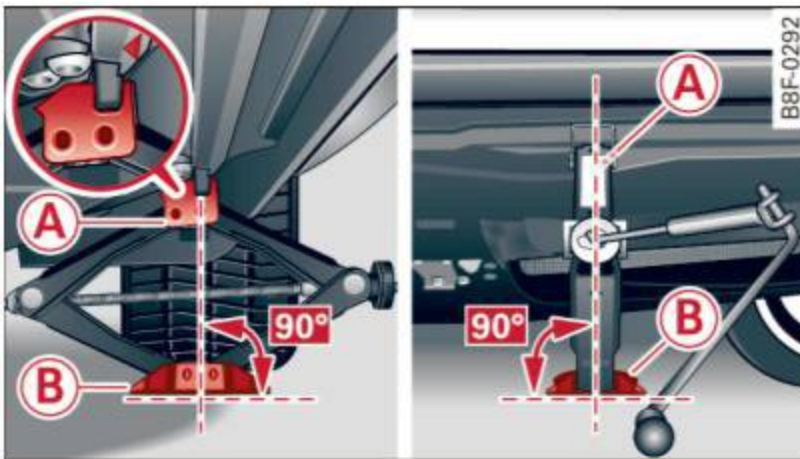

Fig. 188 Sill: positioning the vehicle jack
- ▶ Turn the **vehicle jack** located under the lifting point on the sill to raise the jack until the jaw ⇒ fig. 188 **A** covers the **notch** on the vehicle ⇒ ⚠ ⇒ !.